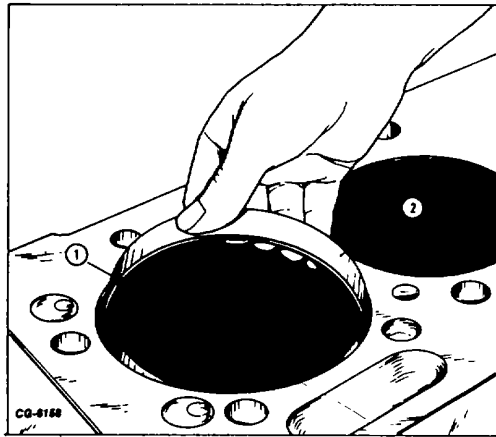

Figure 16. - Inserting Insert into Block
- d. Set the insert (2, Fig. 16) in the cylinder block (1) as shown.